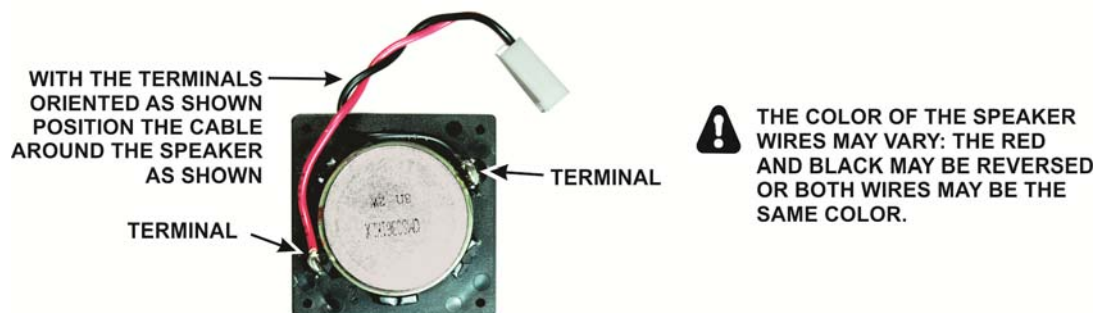

Figure 7. Dressing the Speaker Cable.
- ☐ Locate the speaker and dress the cable attached to it as shown in Figure 7. This is important to ensure the speaker is oriented correctly when you install it.